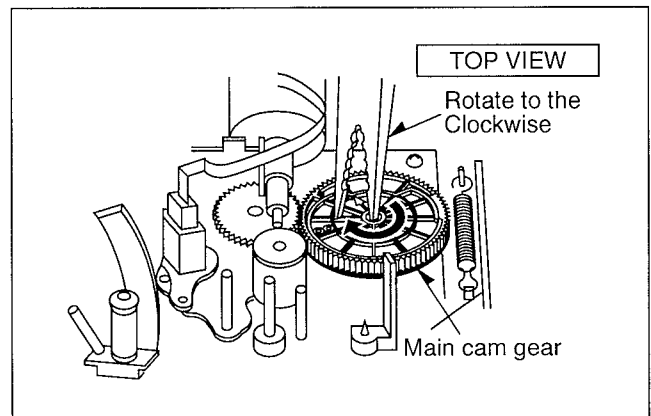

Fig. S9
- 2) Rotate the Main Cam Gear clockwise until the Loading Posts move to fully unloaded position as shown in Fig. S9. (Tape is remaining)